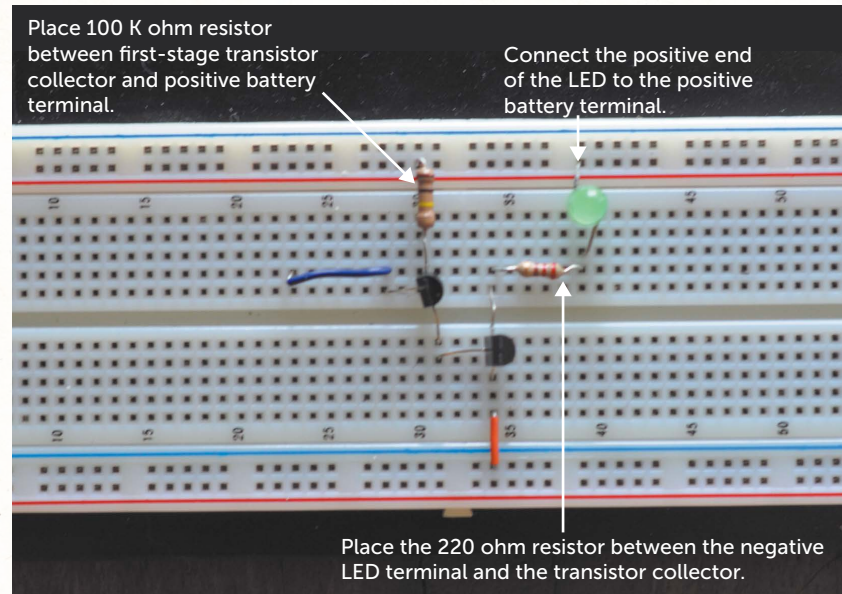

Figure 4.4: Adding a 220 ohm resistor
7. Now insert a 220 ohm resistor between the negative LED terminal and the collector of the second-stage resistor as shown in Figure 4.4.